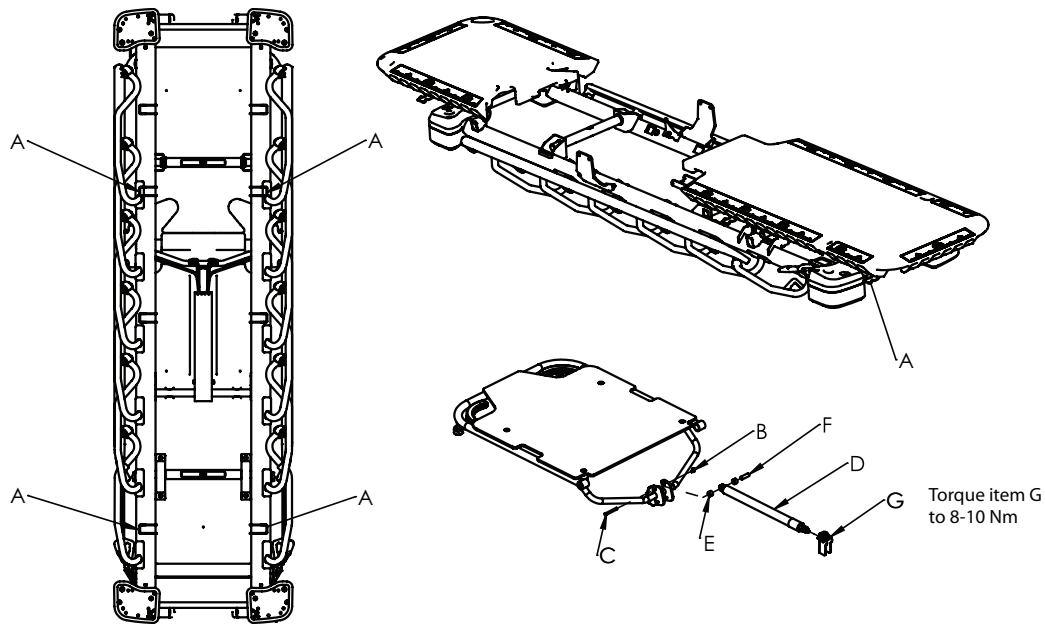

Figure 19 – Fowler gas cylinder replacement
6. From below the litter frame, use your hand to unclip the four spring clips (A) that secure the foot skin to the foot frame.
8. Use needle nose pliers to remove the rue ring cotter (B) and clevis pin (C) that secure the cylinder (D) to the Fowler backrest frame (Figure 19).